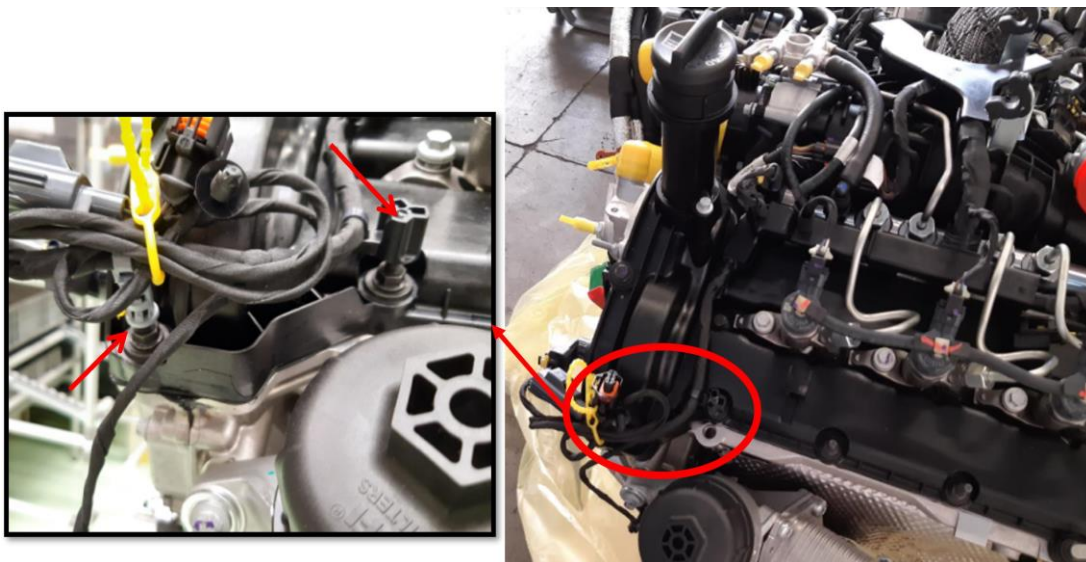

Figure 5
6. Secure the front of the harness on the driver's side, onto the studs as shown. Please see (Figure 5).